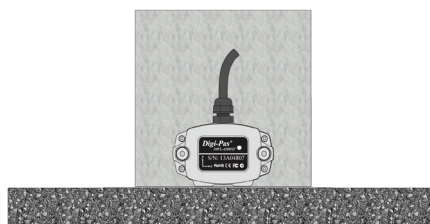

Figure 26. Compact Sensor Module Position of Calibration Step 1
9. For **DWL4200XY** model, repeat step 3 to step 8. Please locate the sensor module in following positions (refer to Figure 26 to Figure 33) respectively.
10. For **DWL4500XY** model, please perform only 4 steps calibration as shown in Figure 26, 27, 32, and 33.